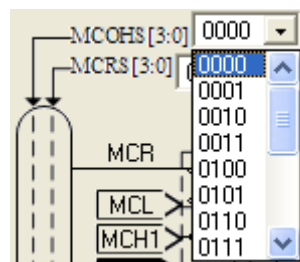

Figure 54
- (1) Click mouse left key to the network name, MCOHS, to select the network
- (2) Click mouse left key to the network switch, MCOHS, to select the network
- (3) Click mouse left key, window like Figure 54 shows up, then user can select the switch network